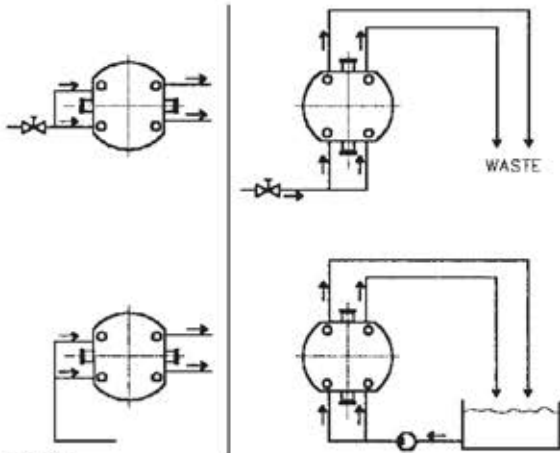

Fig 2
- Flush fluid should be connected to flow in at the lowest point on the seal housing and out at the highest point to vent air pockets, as shown in Fig 2 (overleaf).